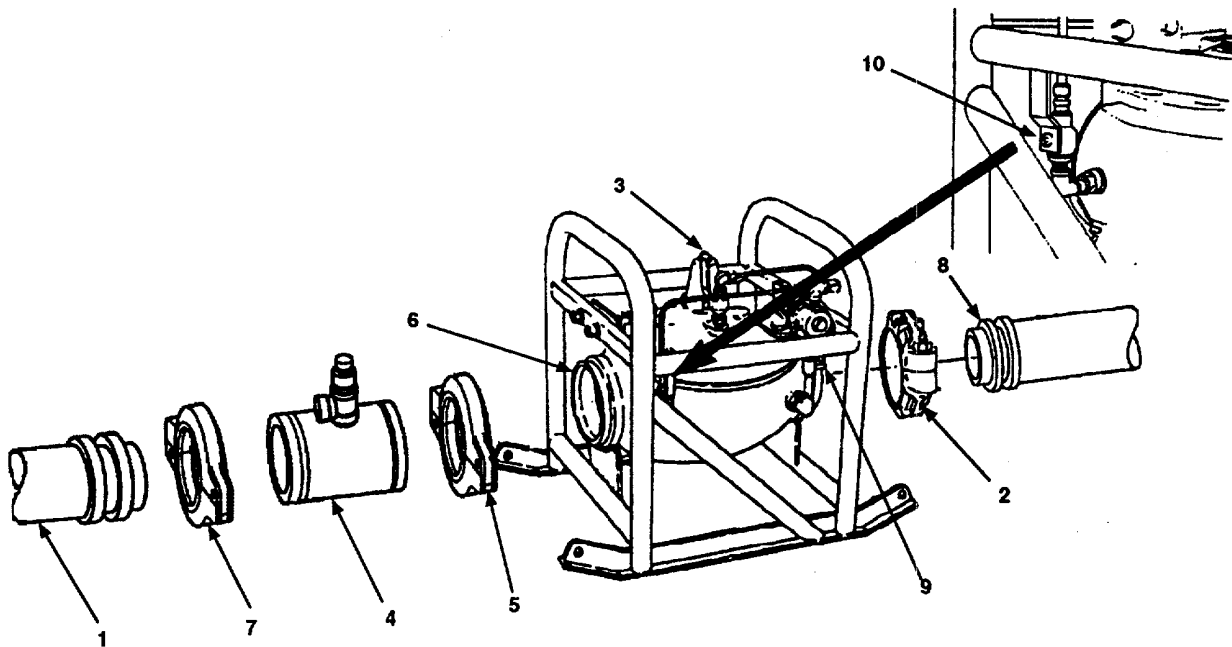

Figure 2-42. Pressure-Reducing Valve Assembly Installation.
- x. When hoseline (1) is in place, use three or more U-bolt clamps to secure end shackles to wire rope (4).
- a. Remove 6 inch grooved pipe couplings (Figure 2-42, 1 and 2), (para 2.3.5.1), connecting hoseline lengths (7 and 8) where pressure-reducing valve assembly (3) is to be installed.
- b. Locate pressure relief valve (4) with attached grooved-end pipe quick disconnect coupling (5). Remove grooved-end pipe quick disconnect coupling (5) (para 2.3.3.1).